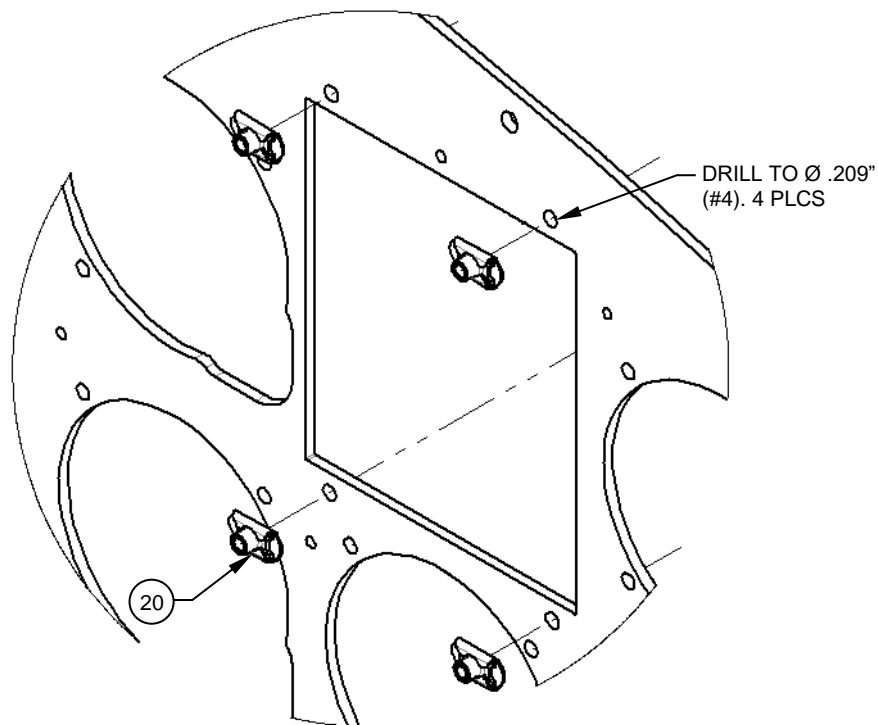

Figure 8
1. Gain access to the installation location for the Click Bond® two-lug nut plates (Item 20) Reference step 10 and Figure 8 of the Installation Instructions.